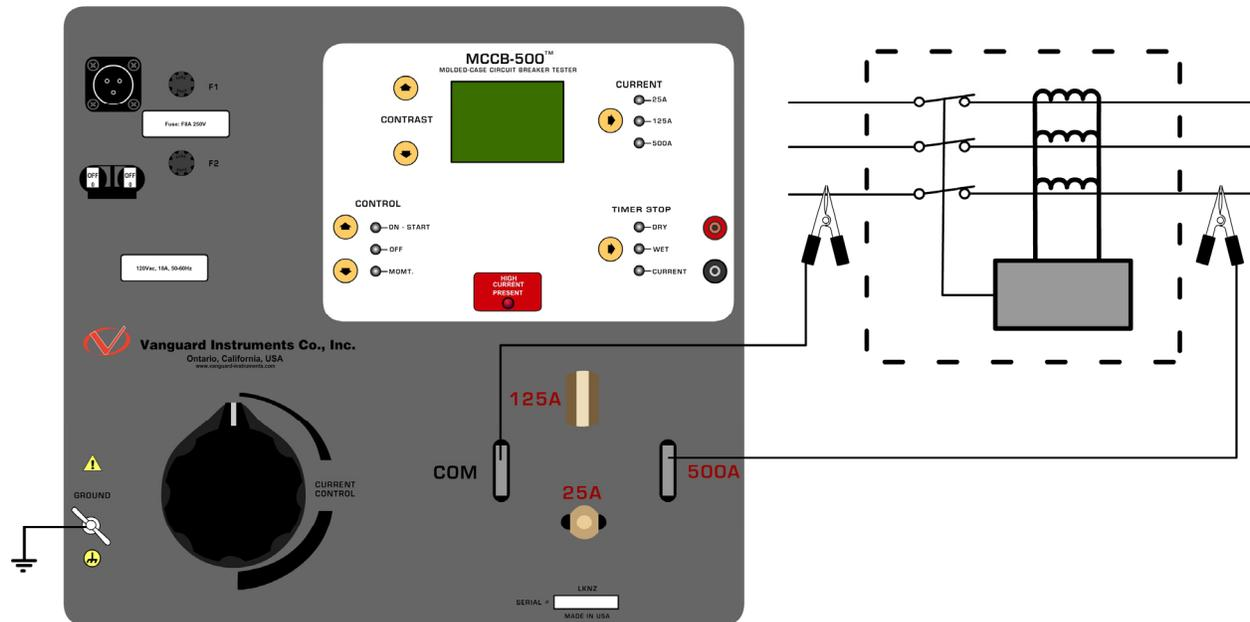

Figure 3. Typical MCCB-500 Application
Figure 3 illustrates a typical connection of the MCCB-500 to a molded case circuit breaker to test its “Open Time Delay”. The MCCB-500 injects a test current through a circuit breaker contact. This current is sensed by the circuit breaker control circuit. The time delay test starts by injecting a preset current to the circuit breaker contact and ends when the circuit breaker contact is opened and interrupts the test current.
- c. Connect the Current Cables from the MCCB-500 to the bus as shown in Figure 3.